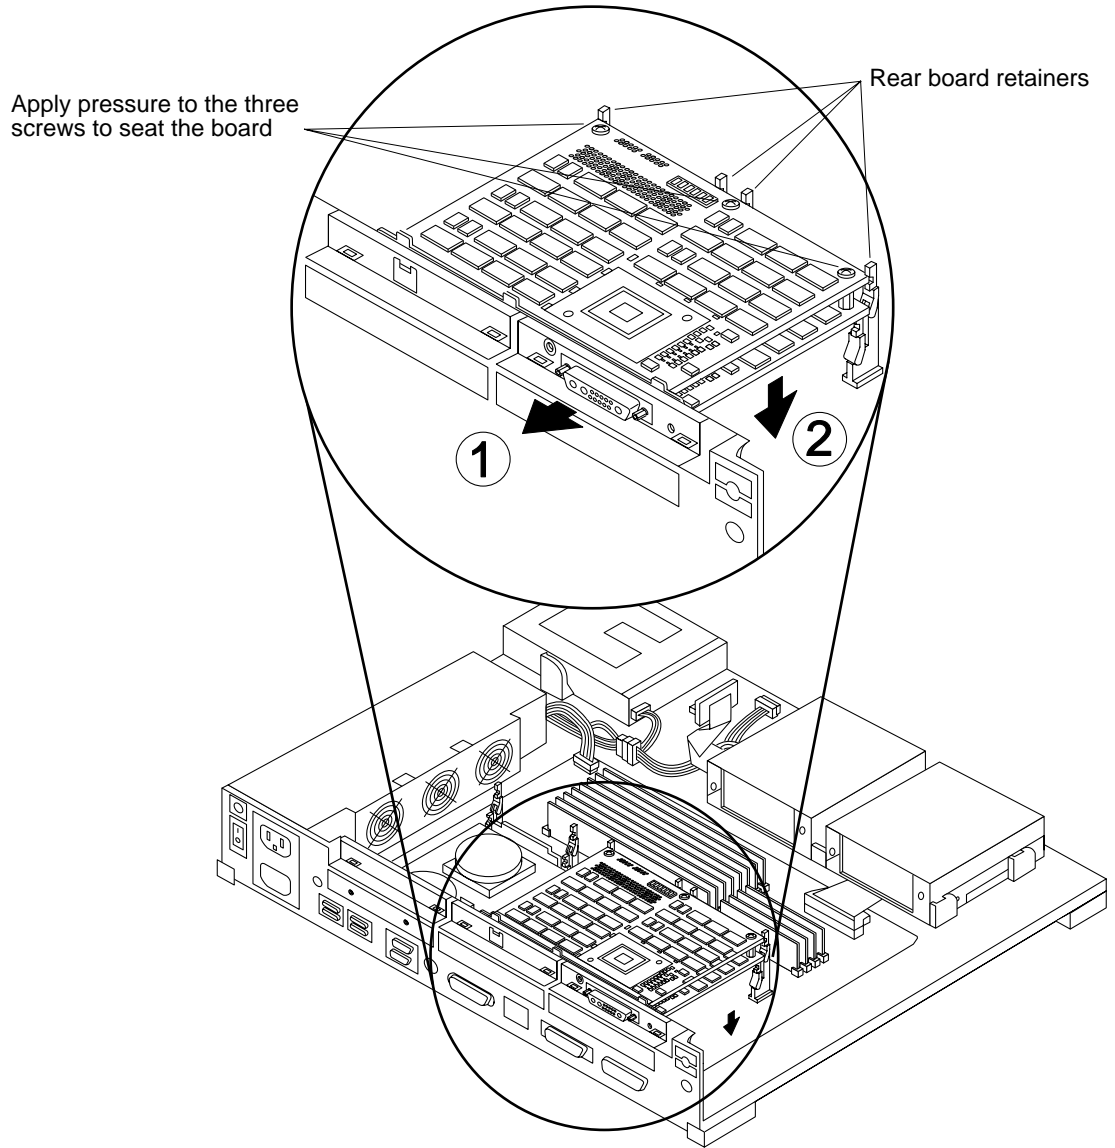

Figure 4-8 Installing the ZX Board in the SPARCstation 10
See detail ① in Figure 4-8.
See Figure 4-8 (detail ②).
See Figure 4-8.